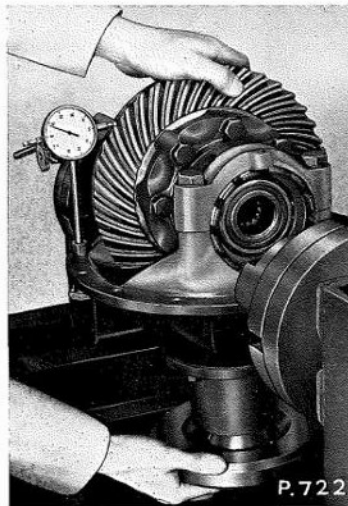

Fig. G.15. Checking for backlash between the crown wheel and bevel pinion teeth, using the Churchill Tool PT.4008
1. Check the backlash. Using the Churchill Tool PT.4008, position the dial gauge to contact one of the crown wheel teeth so that it will record any movement of that tooth (see Fig. G.15). Hold the driver coupling